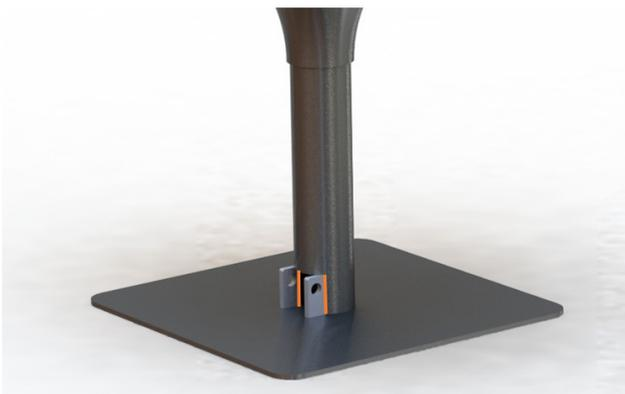

Figure 2 - Welding zone Brackets-Cylinder
Weld the brackets (25) into the big diameter cylinder (16), figure 2, for the pedal assembly that will come later.